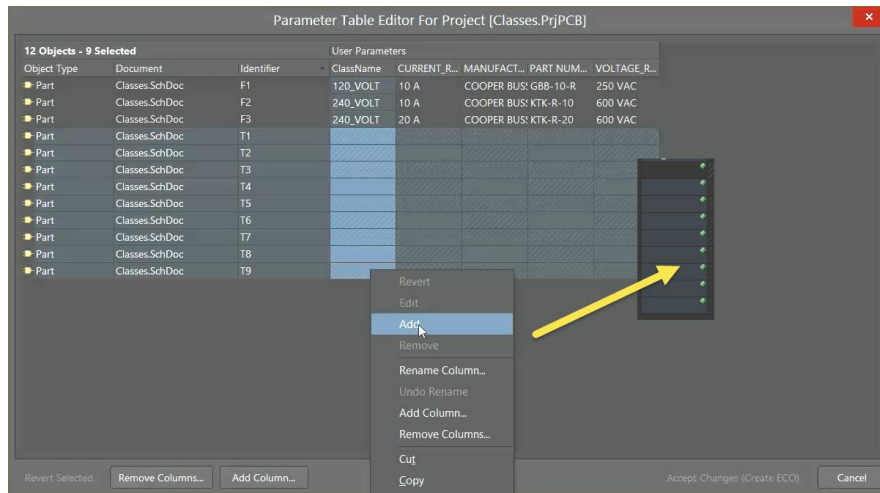

Figure 5. Parameter Table Editor for the Project
35. Select the T1 through T9 *ClassName* column entries, Right-Select and select **Add**. Refer to Figure 5. This will add Plus Symbols for editing, indicated by the arrow and insert image.